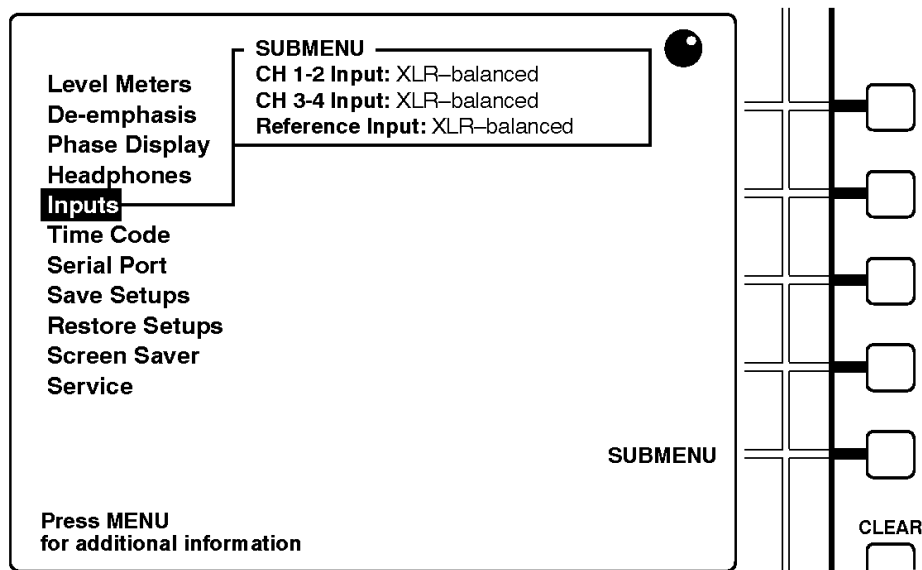
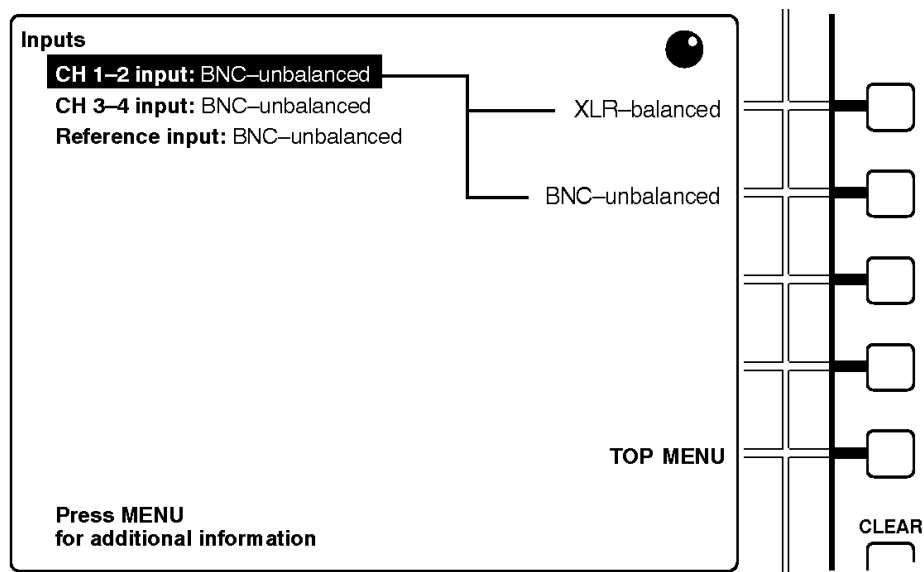

Figure 10: Selecting from the top menu
Figure 11: The inputs submenu
3. The knob icon appears in the upper-right corner of the display when the multi-function knob is active. Here, you may turn the knob to scroll among the TOP MENU choices. Turn the knob now to scroll the menu highlight to the “Inputs” entry, as shown in Figure 10.
4. The five buttons immediately to the right of the display are called soft buttons. The printed/molded lines to the left of these buttons serve to associate the buttons with on-screen menu choices or functions. In Figure 10, the bottom soft button is associated with the SUBMENU function, but you can press *any* soft button to enter the Inputs submenu.¹ After you do, the display resembles Figure 11.